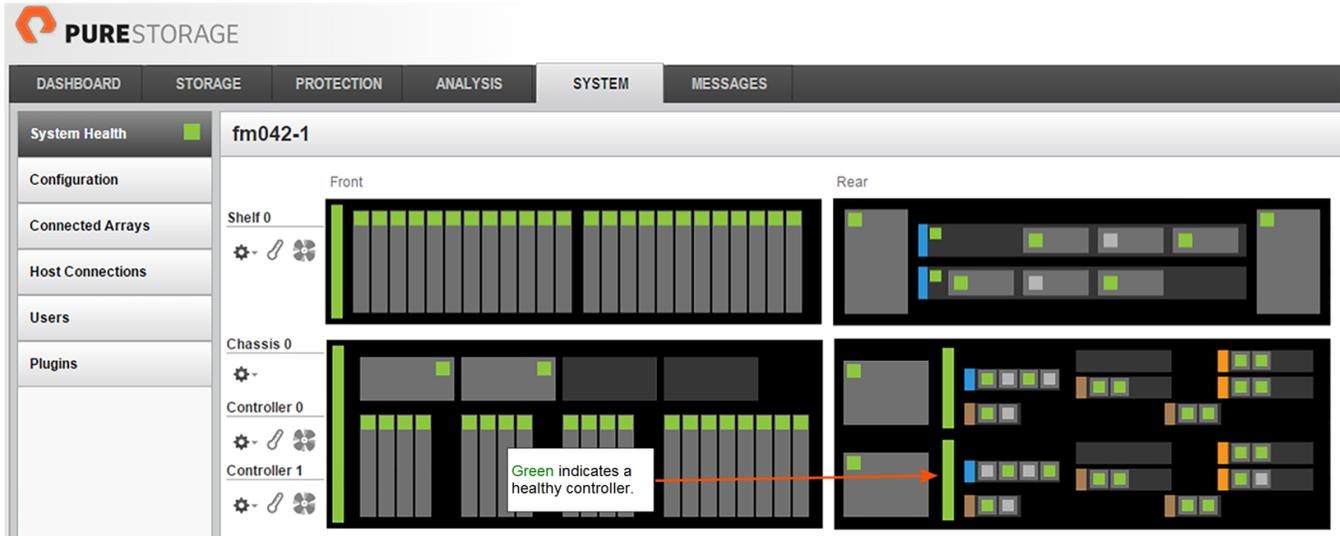

Figure 7-15. GUI Display Showing Healthy Controller
- Verify that the Purity GUI or CLI (see Figure 7-15 and Figure 7-16, respectively) show healthy controller status.